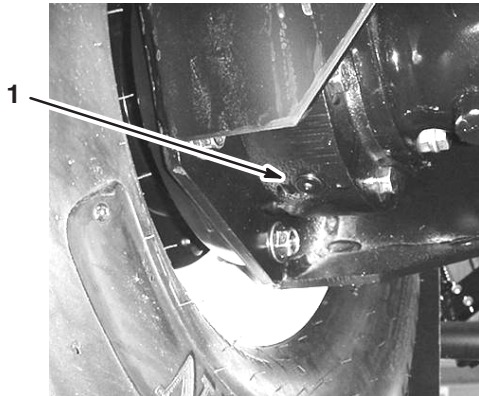

Figure 45
- Place a pan under the inner drain plug and remove it (Fig. 45).